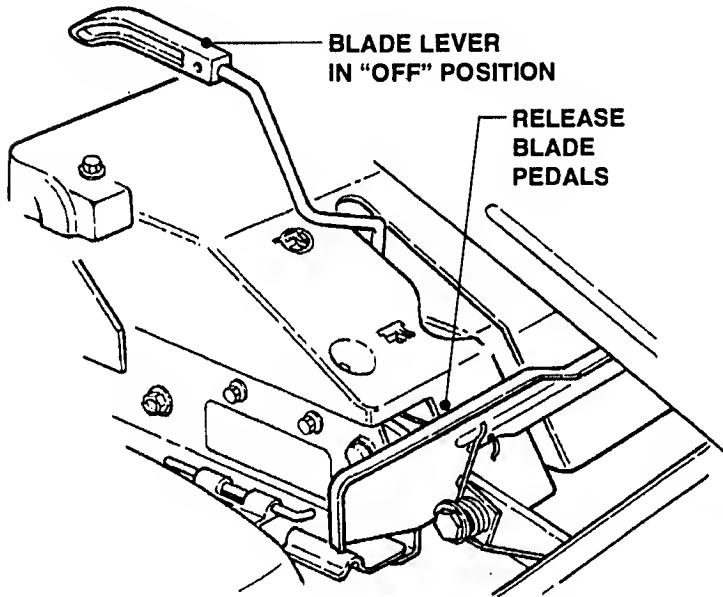
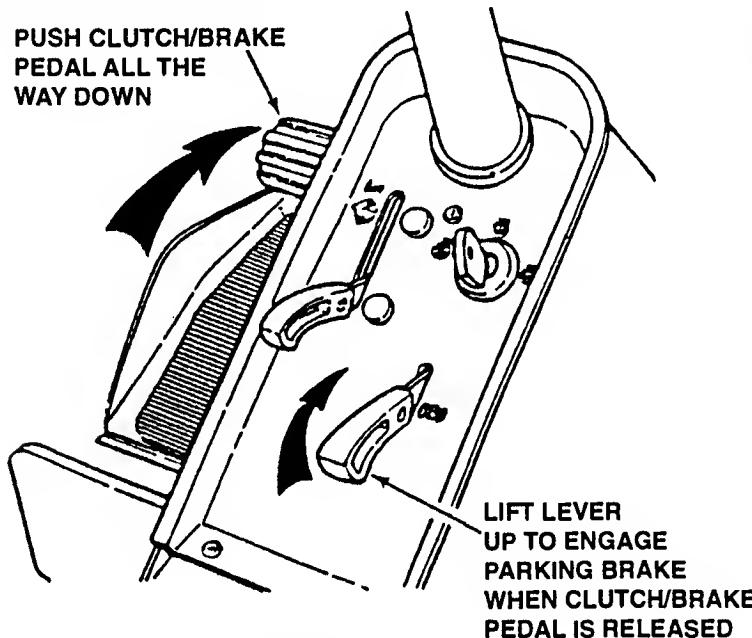

FIGURE 2.4
FIGURE 2.8
2. Make certain the Blade Lever is in the "OFF" position. See Figure 2.4.
**IMPORTANT:** When the ignition key is turned to "RUN", and the recoil handle is pulled, the engine will turn over, but will not start unless the Clutch/Brake Pedal is pressed all the way down with Parking Brake engaged (See Figure 2.8) and the Blade Lever is in the "OFF" position (Refer to Figure 2.4). Start engine as follows:
1. Move transmission shift lever to (N) Neutral position. DO NOT start engine with transmission shift lever in a drive position.
2. Make certain the Blade Lever is in the "OFF" position. Refer to Figure 2.4.
3. Press Clutch/Brake Pedal all the way down, lift Parking Brake Lever and release the Clutch/Brake Pedal to set Parking Brake. See Figure 2.8.